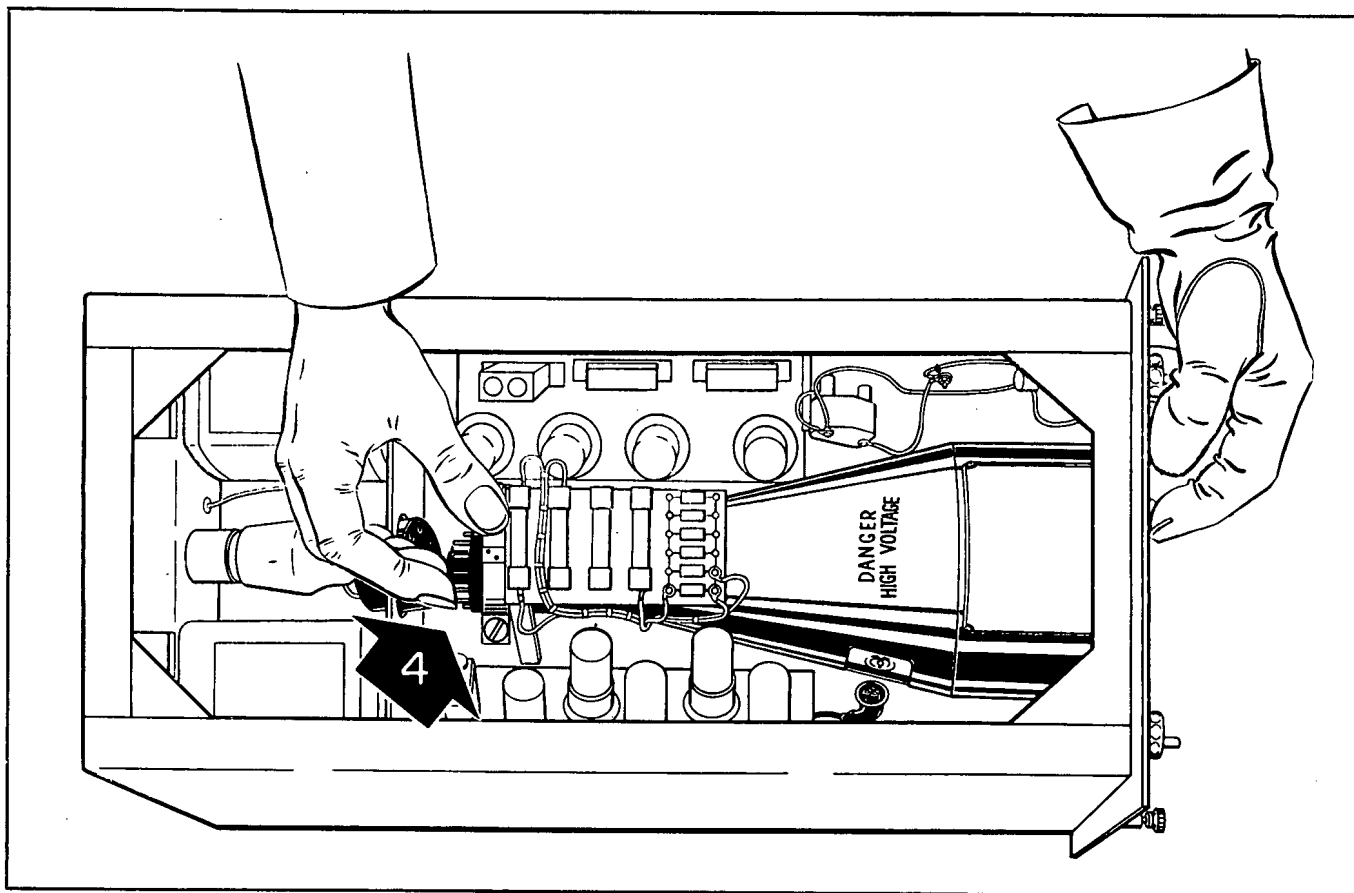

Figure 7-36. Pushing Cathode Ray Tube Forward in Range Scope
(6) Use the gloved hand to support the front of the tube and use the other hand to apply pressure against the base of the tube and carefully force the tube out. See Fig. 7-36.